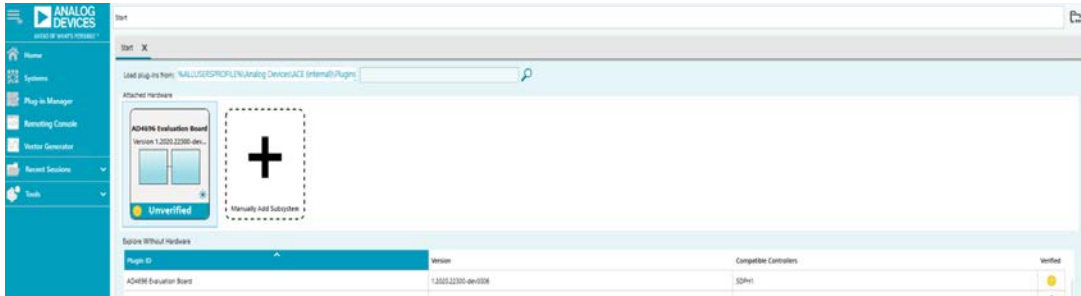

Figure 13. ACE Software Start Window
1. From the **Start** menu, select **All Programs > Analog Devices > ACE > ACE.exe**, which brings up the window shown in Figure 13.
1. From the **Start** menu, select **All Programs > Analog Devices > ACE > ACE.exe**, which opens the window shown in Figure 13.
2. Double click the **AD4696 Evaluation Board** icon in the **Attached Hardware** section in the ACE **Start** window to display the AD4696 evaluation board view (see Figure 13).